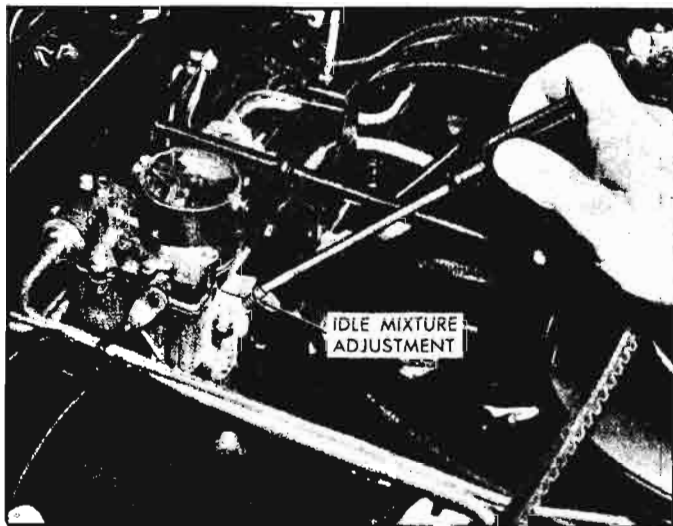

Fig. 9-12—Idle Mixture Adjustment
- e. Adjust curb idle speed (duplicate adjustment on both carburetors) to attain approximately 500 rpm (automatic transmission in drive and synchromesh in neutral, hand brake applied). Adjust idle mixture screws (fig. 9-12) on both carburetors to obtain peak steady vacuum at given idle speed.